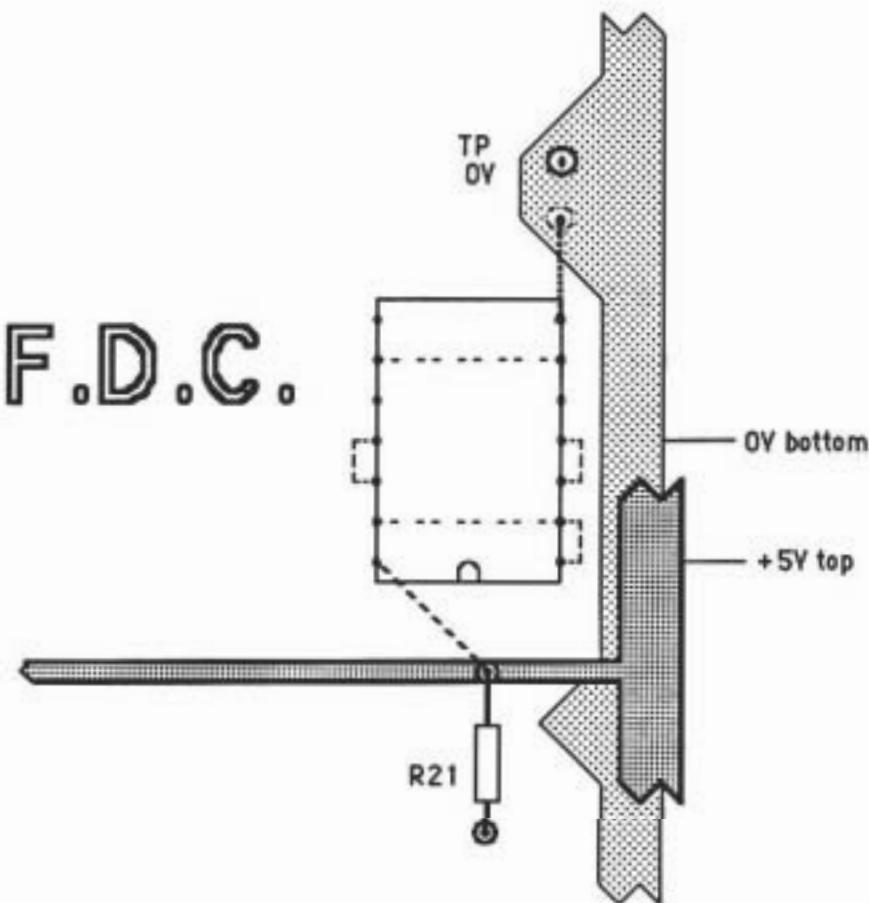

figure 2:suggested chip placement
- 2) With the aid of figure 2, locate and mark out the positions for the 14 pins of the 74LS00 chip. You can use a small piece of 0.1" vero board as a template.
- 4) Insert the 74LS00, see figure 2, notch or dot towards you. Turn the board over and solder pin 7 to 0V and pin 14 to the solder pad of R21 with some thickish tinned copper wire. The two wires have now mechanically secured the chip to the board.